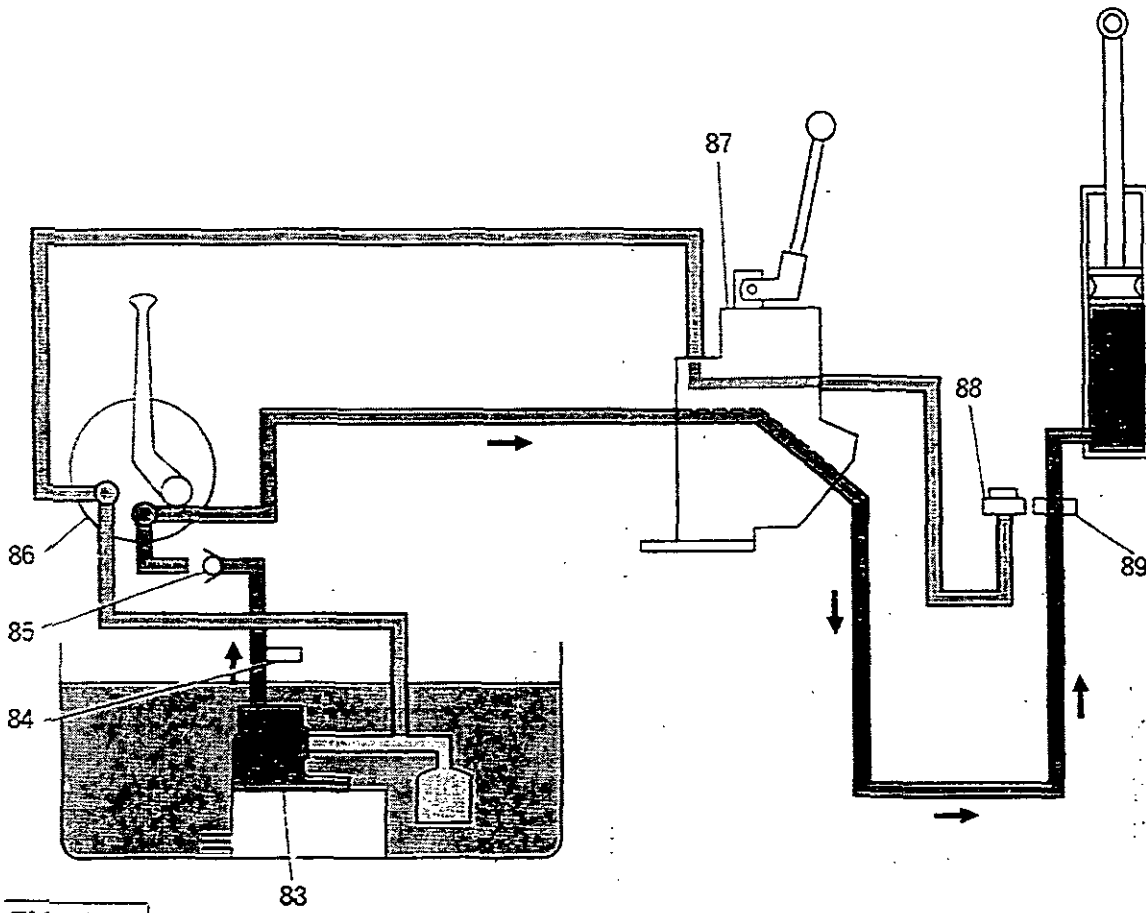

FIG. 19A
**Single-Acting Ram-Wooster Spool Valve Raising (Lever Back)** Fig. 19A and 19B